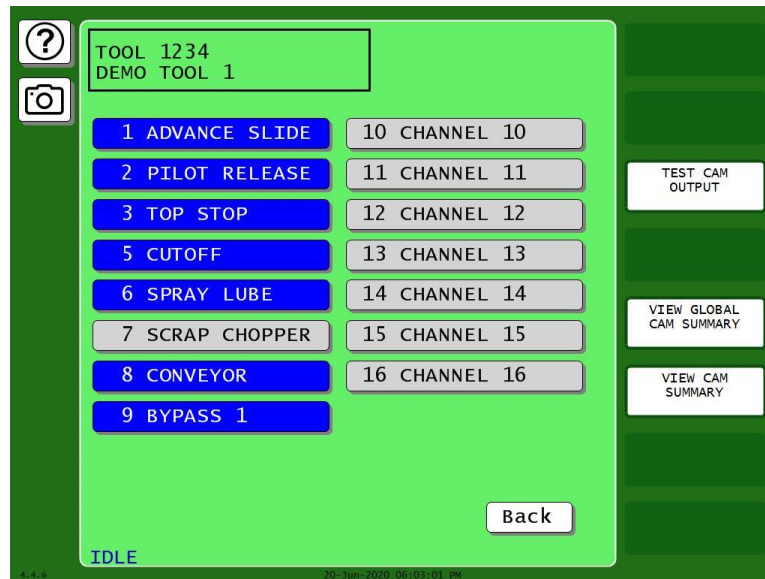

Figure 7-7. Sample Cam Channel Menu
This item enables you to program up to 8 (for 8-channel ProCamPAC) or 16 (for 16-channel ProCamPAC) cam channels. Cam channel settings are made via the Cam Channel Menu, Figure 7-7.
1. Press CAM SWITCH on the Tool Program Menu. The Cam Channel Menu displays, Figure 7-7.